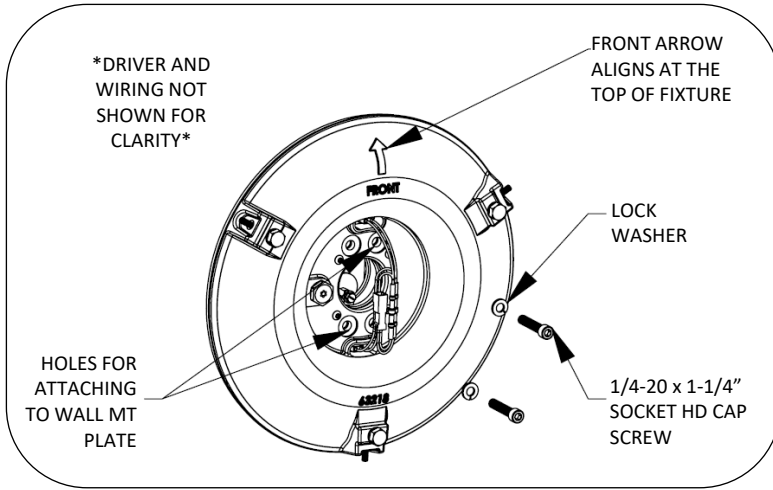

Fig. 3 – secure cartridge to wall mt plate
3. Position the fixture over the mounting plate. Arrow on cartridge should be facing up. Pull supply wires through opening in cartridge. Secure fixture to wall mount plate using two 1/4-20 1-4" socket head cap screws and lock washers, see Fig.3.